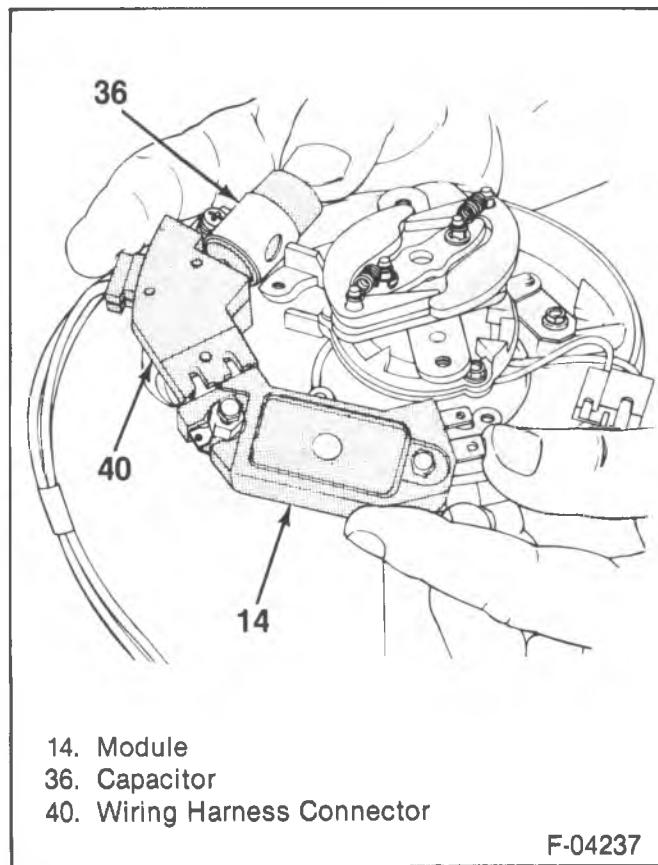

Figure 13—Removing the Module
19. Capacitor (36), wiring harness connector (40) and module (14) from the housing (figure 13).